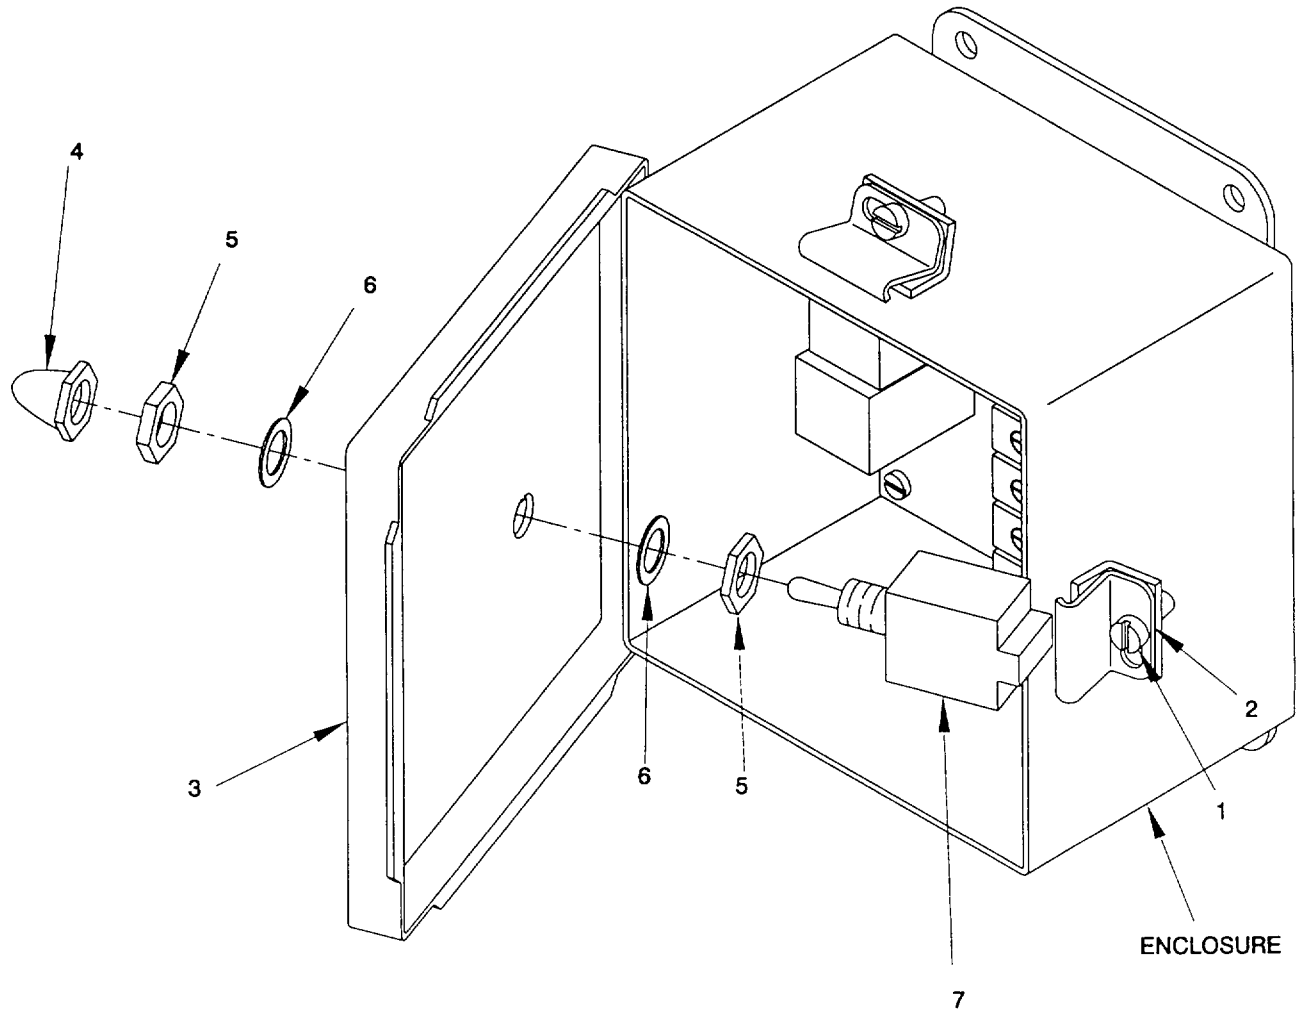

Figure 2-53. Toggle Switch, Single Bilge Pump Control Assembly "A7", Remove/Install
- a. *Remove.* (figure 2-53)
- (1) Remove six screws (1) and six latches (2) from enclosure.
- (2) Open door (3) to gain access to electrical components within the enclosure.
- (3) Inspect all electrical components for rust, corrosion, deterioration, dirt or condensation, or loose hardware or loose, frayed, or broken electrical wiring connections. Seal boot must form a watertight cover over switch. Repair is limited to replacement of components, as necessary.
- (4) Tag all electrical connections leading to the toggle switch (7) before disconnecting electrical wiring. Refer to Appendix G, for wiring list and terminal layout.
- (5) Disconnect all electrical wiring connections to the toggle switch.
- (6) Remove toggle seal boot (4) from toggle switch (7).
- (7) Remove two attaching nuts (5) and washers (6) and collect toggle switch (7) from the enclosure's door (3)
- b. *Install.* (figure 2-53)
- (1) Position toggle switch (7) in enclosure door (3).
- (2) Coat all fasteners with antiseize compound before installation of mounting hardware.
- (3) Secure toggle switch (7) with two nuts (5) and washers (6).